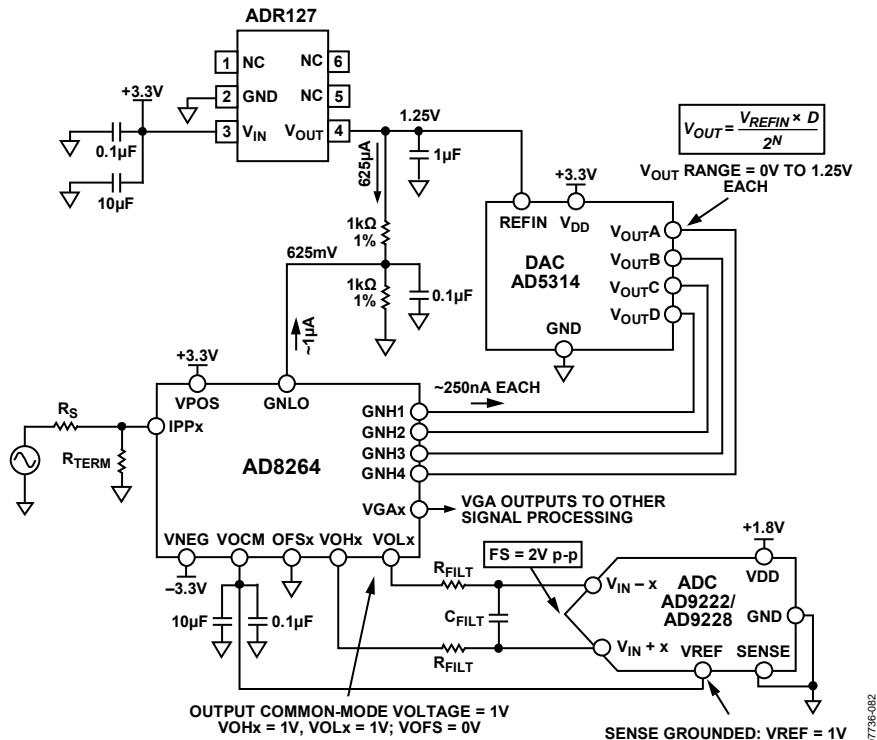
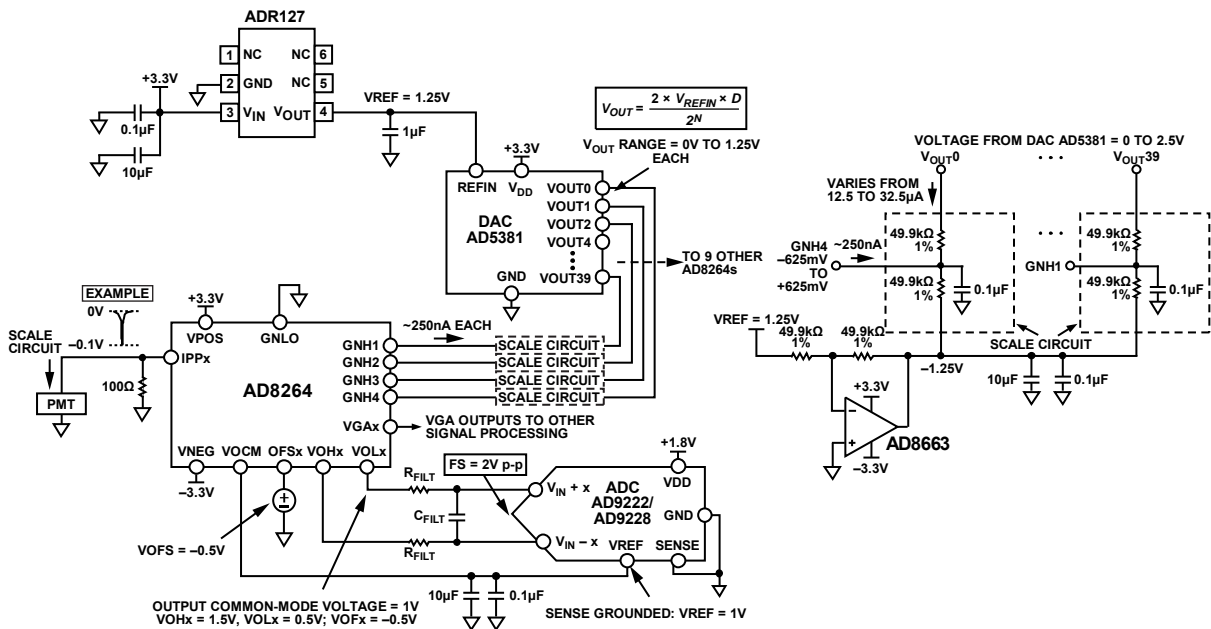

Figure 112. Application Concept of the AD8264 with the AD5314 10-Bit DAC and the AD9222/AD9228 12-Bit ADC
Figure 113. Concept Application of AD8264 with 40-Channel AD5381 12-Bit, 3 V DAC and AD9222/AD9228 12-Bit ADC
The AD8264 is particularly well suited for use in the analog front end of medical PET imaging systems. Figure 112 shows how to use the AD8264 with the AD5314 (a 4-channel, 10-bit DAC) and the AD9222/AD9228 (an octal or quad, 12-bit ADC, respectively). The DAC sets the gain of the AD8264. Note that the full gain span of 24 dB is achieved with this setup because the gain control input range of the AD8264 is very close to 1.25 V. The GNLO pin must offset by $1.25/2 = 625$ mV because the gain control input is bipolar around the voltage applied at GNLO. This is done with two 1 k Ω , 1% resistors. The approximately 1 μ A of bias current flowing from the GNLO pin does not contribute a significant error because the basic gain error of the AD8264 is the limiting factor.
Figure 112 also includes the DAC output equation, which indicates that the output can vary between 0 V and $V_{\text{REF}} = 1.25$ V.
The single-ended-to-differential amplifier of the AD8264 amplifies the VGA output signal by 6 dB and can provide the required dc bias of the AD9222/AD9228, as shown in Figure 112. The ADC is connected with the default internal reference because the SENSE pin is grounded. With this connection, the AD9222/AD9228 VREF pin is an output that provides 1 V; this is then connected to the V_{OCM} input of the AD8264, which sets the output common-mode voltage of the VOH_x and VOL_x pins to 1 V. This voltage is very close to the recommended optimal value of $V_{\text{DD}}/2 = 0.9$ V. With this configuration, the ADC inputs are set to a full-scale (FS) of 2 V p-p.
The dc connected concept example in Figure 113 is an application with the 40-channel AD5381, 3 V, 12-bit DAC. The main difference between this example and Figure 112 is that, for the same ADR127 1.25 V reference, the full-scale output of the DAC is from 0 V to $2 \times V_{REFIN} = 2.5$ V. Two options for gain control include the following:
- Use the same circuit as in Figure 112 but use only half the DAC output voltage from 0 V to 1.25 V. This is the simplest solution, requiring the fewest extra components. Note that the overall gain resolution increases by one bit to 11 bits over the 10-bit AD5314.
- Ground GNLO and scale the DAC output so that the GNHx inputs vary from -0.652 V to $+0.625$ V. Figure 113 shows a possible circuit implementation using a divider between the DAC output and a -1.25 V reference.
Figure 113 shows how the AD8264 is connected in a PET application. The PMT generates a negative-going current pulse that results in a voltage pulse at the preamplifier input and a differential output pulse on VOLx and VOHx.
A convenient method of verifying and customizing the signal chains shown in Figure 112 and Figure 113 is by ordering the corresponding evaluation boards available on www.analog.com. The AD8264-EVALZ is a platform through which the user can quickly become familiar with the features and performance capabilities of the AD8264. See the Evaluation Board section for more information.